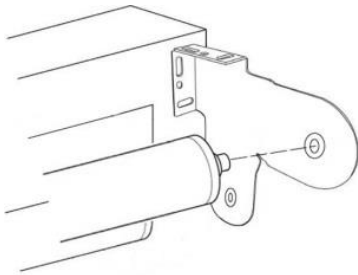

Figure 1
- i) Insert the idle mechanism into the idle bracket (part B) so it is engaged (Figure 1)